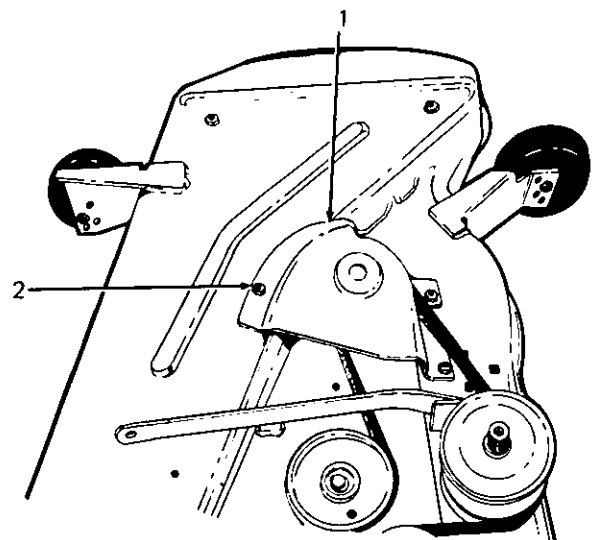

Figure 44.
**SPINDLE DRIVE BELT REPLACEMENT (44 inch Deck) (See Figures 44, 45 and 46)**
To replace spindle drive belt, remove belt covers. Release spring tension. Remove the old belt. Install the new belt around pulleys as shown in Figures 44, 45 and 46. Be certain belt is in lower groove of the center pulley. Reinstall covers.